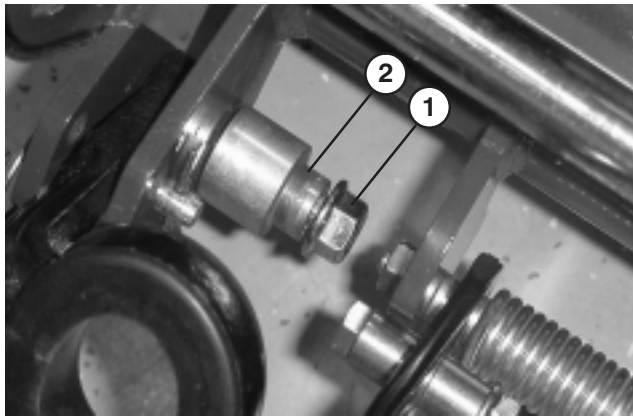

Figure 3
1. Remove the flange lock nut from the capscrew and pivot pin on each side of the mower (Fig. 3).